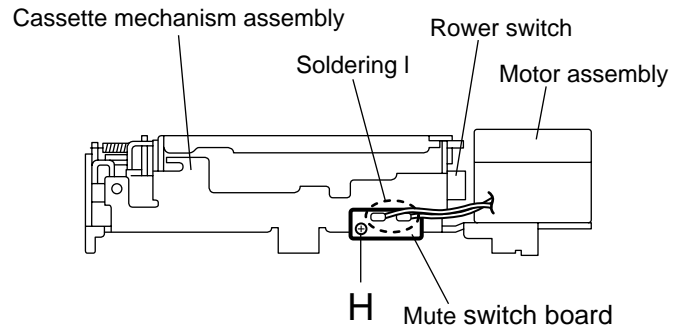

Fig.8
■ Removing the mute switch board (See Fig.8)